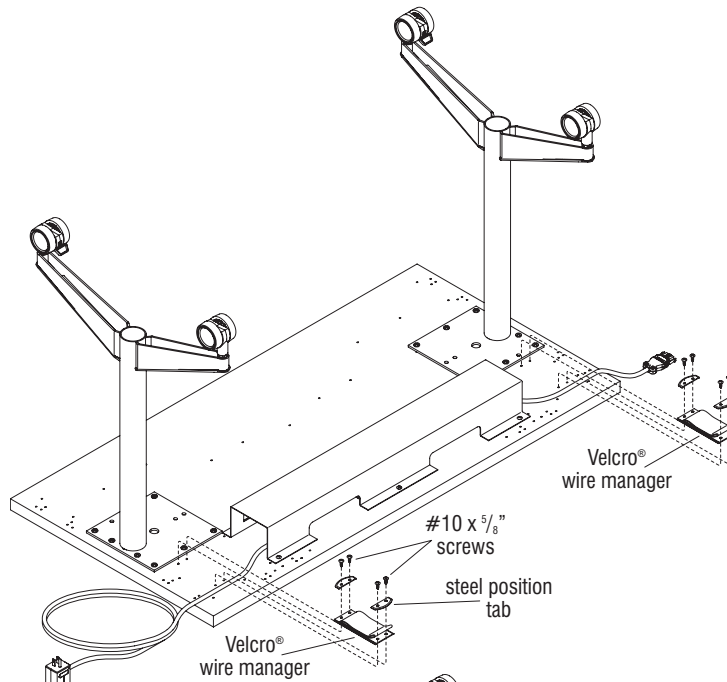

Figure 5
1. Position the two Velcro® wire managers (Figure 5), four if table length is 60"-72" and consists of a power module with 3-prong plug with no optional wire trough (Detail A), over the pre-drilled holes in the underside of the tabletop where illustrated. Locate and place two steel position tabs, one at each end over the mounting holes in the wire manager, then secure using four #10 x 5/8" screws, through the two position tabs, wire manager mounting holes and into the tabletop. Do not over-tighten (Figures 5 & 6).
2. Strap in the desired cords using the installed Velcro wire manager (Figures 5 & 6).